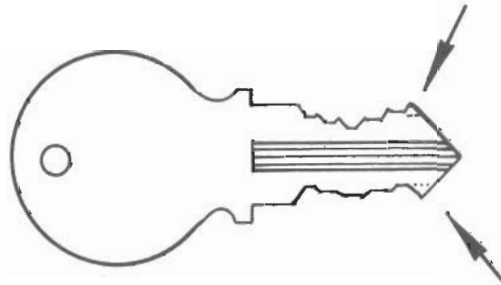

FIG. 12
10. Now cut this second side of the key following same method as above. (Note: The keyway on some cylinders have very loose tolerances and key can be cut deeper by unscrewing depth screw one-quarter turn or .0078. If key does not enter lock after being cut, file off the end of key cut (see Fig. 12). (see note #1)